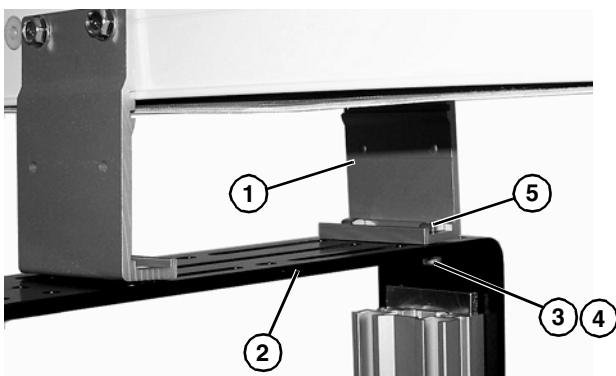

Figure 11
5. Fasten brackets (**Figure 11, item 1**) to support stand (**Figure 11, item 2**) with mounting screws (**Figure 11, item 3**), washers (**Figure 11, item 4**) and connector bracket (**Figure 11, item 5**).